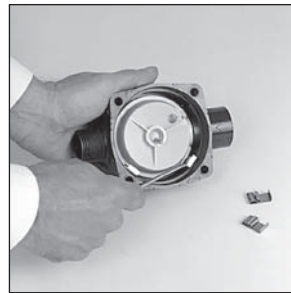

Figure 6
5. Gently remove the metal clips holding the nutator in place. (Figure 6) Take care not to damage the O-ring on the nutator inlet.